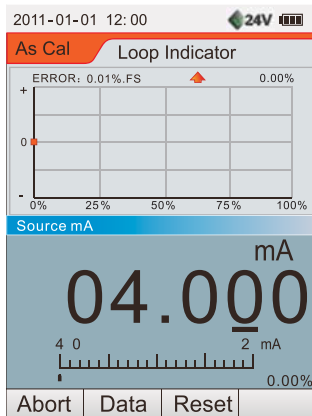

Figure 9.28 Curve display
2. Use **↑** or **↓** key to select the circuit display device options, press **F4** or **Enter Hold** key to enter As Cal execution interface, as shown in Figure 9.28.